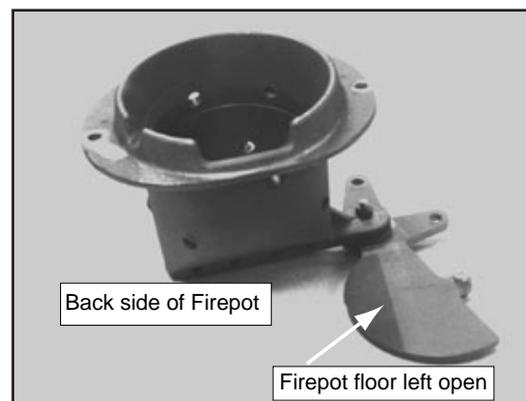

Figure 30.1 - DO NOT LEAVE FIREPOT FLOOR OPEN
The appliance is like most modern furnaces; when the thermostat calls for heat, your appliance will automatically light and deliver heat. When the room is up to temperature and the thermostat is satisfied, the red call light will shut off and the appliance will shut down. **Figure 30.1.**
- c. The firepot floor plate must be fully closed when finished. **See Figure 30.1 on page 30.**